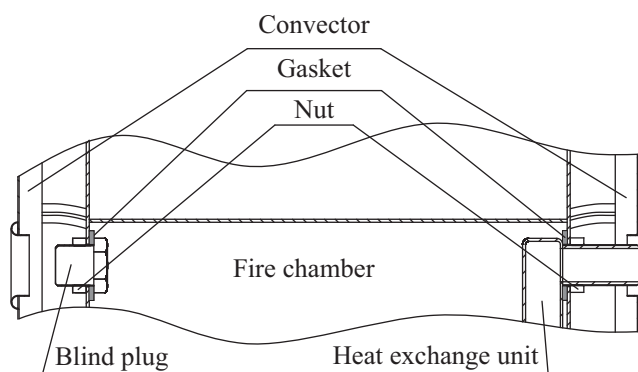

Figure 12. "Tunguska" bath stove heat exchange unit and blind plugs disassembling
3. Remove the heat exchange unit (fig. 12) by unscrewing 2 nuts and taking it off the holes, the gaskets shall stay on the nipples;